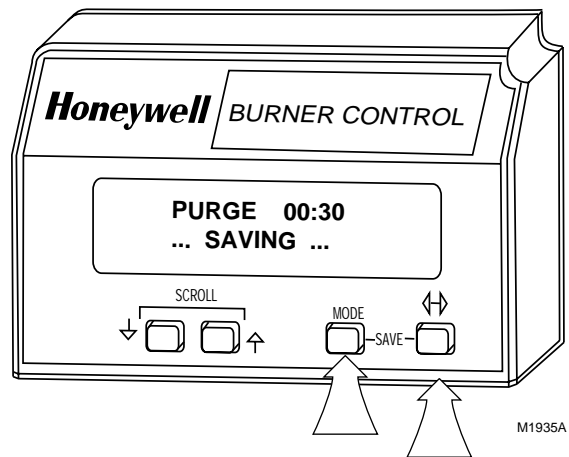

Fig. 12. SAVE function.
4. SAVE function, see Fig. 12. The SAVE function enables users to identify the selectable message they want to view upon power restoration. The second line selectable message are restored to the most recently saved selection when power returns. The SAVE function is performed is by pressing and holding the MODE key and then pressing the CHANGE-LEVEL key (.). The second line of the display briefly notes "...SAVING..." to confirm the keys were pressed.